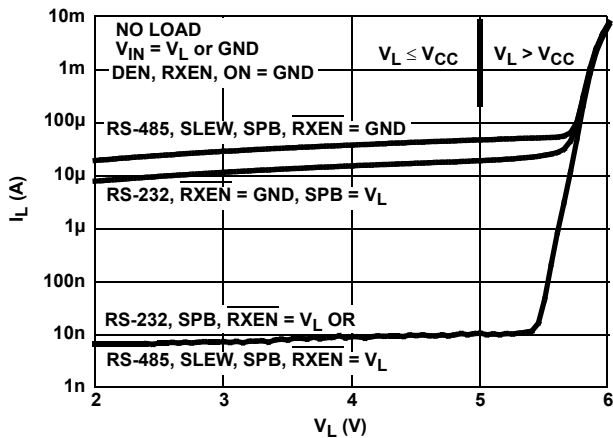

FIGURE 19.  $V_L$  SUPPLY CURRENT vs  $V_L$  VOLTAGE (QFN ONLY)
The VL supply current (IL) is typically less than 60μA, as shown in Figures 19 and 20. All of the DC VL current is due to inputs with internal pull-up resistors (SPB, SLEW,  $\overline{RXEN}$ ) being driven to the low input state. The worst case IL current occurs when all three of the inputs are low (see Figure 19), due to the IL through the pull-up resistors. IIL through an input pull-up resistor is ~20μA, so the IL in Figure 19 drops by about 40μA (at VL = 5V) when the SPB is high and 232 mode disables the SLEW pin pull-up (middle vs top curve). When all three inputs are driven high, IL drops to ~10nA, so to minimize power dissipation drive these inputs high when unneeded (e.g., SPB isn’t used in RS-232 mode, so drive it high).